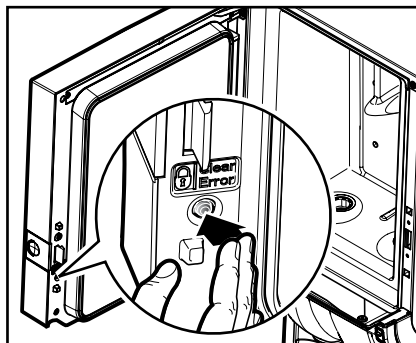

Fig. 22
2. Press the LOCK/Clear-Error switch to block the drink delivery. (Fig. 22)
3. To unlock the dispenser, press the LOCK/Clear-Error switch again to enable drink delivery. (Fig. 22)